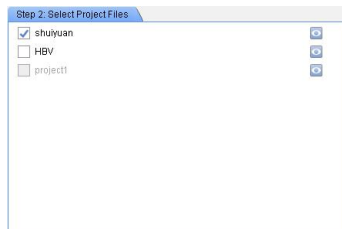

Fig 4- 22
- 3 Edit the sample type and property in **Step 3: Defining Well** (Fig 4- 23). By default, the type of the selected wells is Unknown. If necessary, change the type by clicking the **Sample Type** drop-down menu.